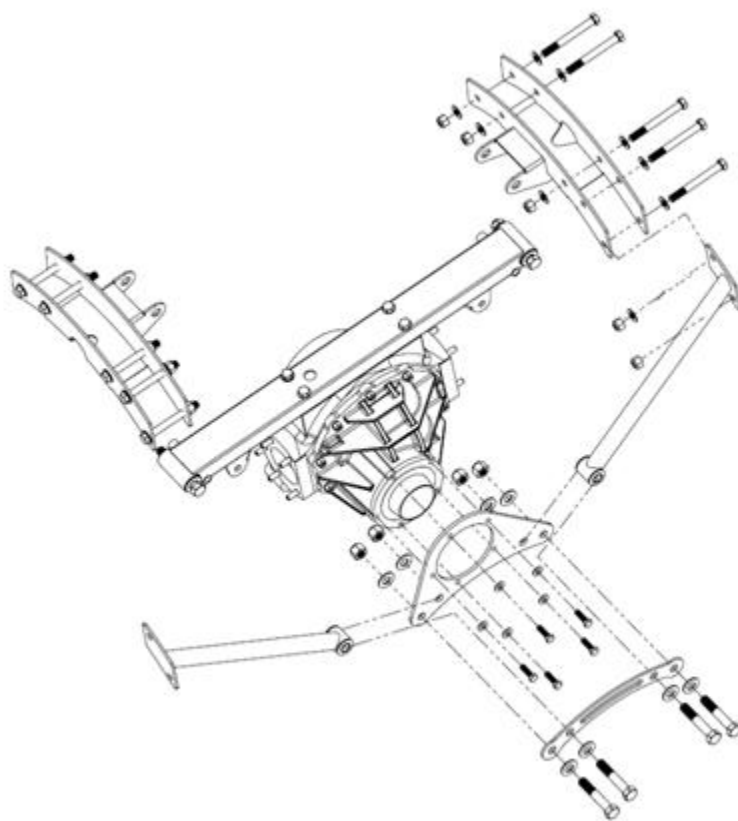

Figure 8. Overhead view of the saddles, center section with third member, and pinion support plate
- 14) Now, install the pinion support plate (3/8" hardware), and pinion support tubes (5/8 Hardware) utilizing the 2 forward-most saddle bolts as shown in Figure 8.